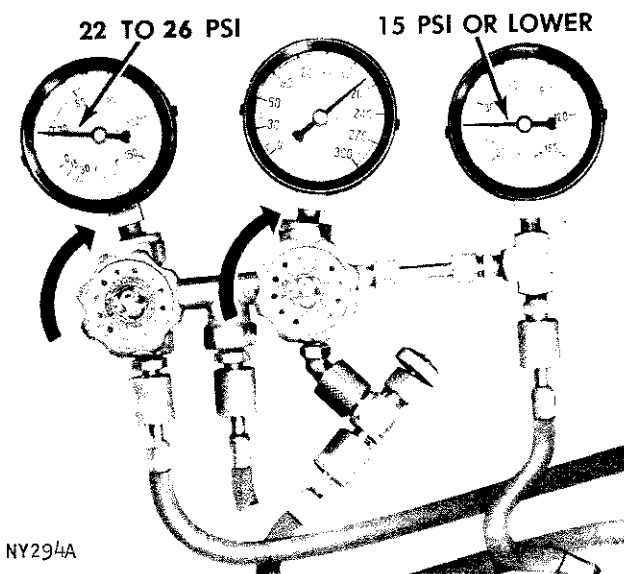

Fig. 16—EPR Valve Test Pressures
(1) Pressure registered at the evaporator suction gauge will become progressively lower.
(2) At the same time, the compressor inlet gauge will start to fluctuate. The fluctuation is caused by the alternate opening and closing of the "EPR" valve. It indicates that suction pressure is reduced to the point where it just balances the internal spring pressure on the diaphragm. The "EPR" valve is actually operating as a modulating valve.
(3) When fluctuation at the compressor inlet gauge stops and the pressure registered drops steadily, the "EPR" valve is maintaining minimum suction line pressure. Allow the pressure registered at the compressor inlet gauge to drop to 15 psi or lower, then read the evaporator suction gauge. (Refer to Figure 16).
(4) The suction gauge pressure should be 22 to 25 psi. This indicates that the suction pressure maintained by the "EPR" valve is correct. However, if engine speed is increased to approximately 2000 rpm in